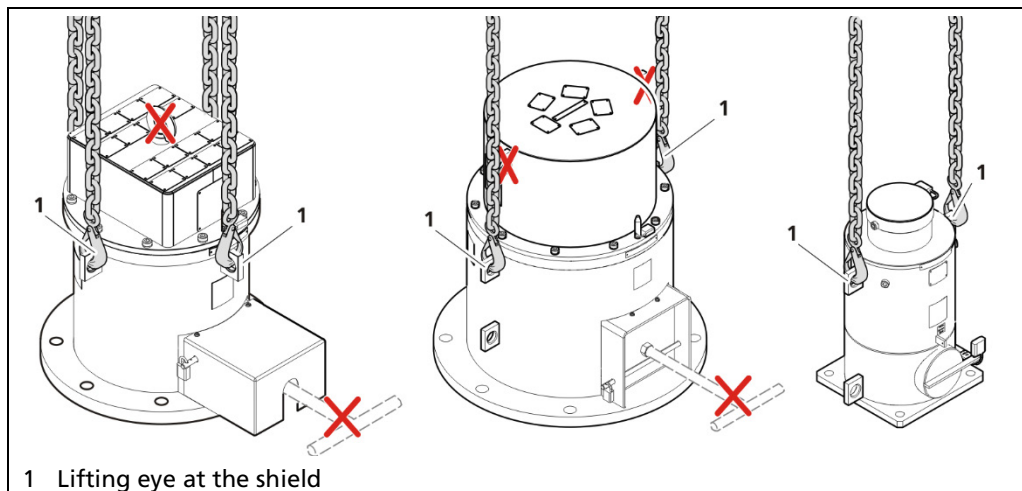

Fig. 7 Attach the shield
2. Attach the shield to the lifting eyes with adequately dimensioned and tested slings (Fig. 7, item 1).